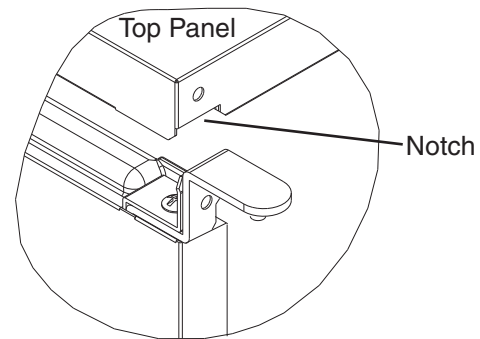

Fig. 5
- 5) Rotate the top panel 180° from its previous position. This brings the notch that was previously in the right rear to the left front. See Fig. 5. Hook the rear part of the panel on the body, then secure the front with the 2 bolts removed in step 2.